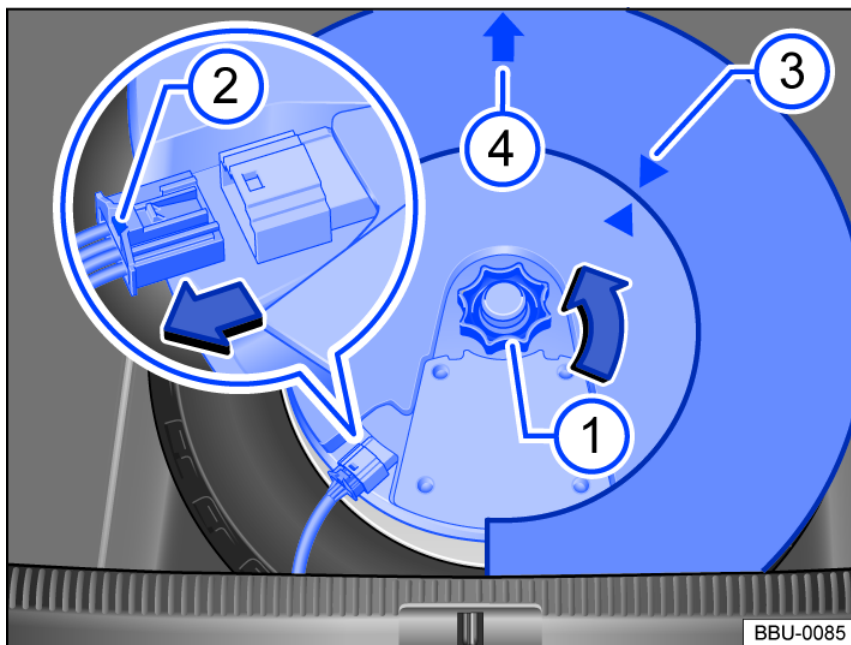

Fig. 171 In the luggage compartment: removing the subwoofer (version 2).
- Place the subwoofer carefully in the rim well. The point of the "FRONT" *fig. 171* (4) arrow symbol on the subwoofer must face forward.
- Check that the tip of the arrow on the subwoofer corresponds to the tip of the arrow on the vehicle toolkit *fig. 171* (3).
- Insert the connector *fig. 171* (2) until you hear the locking mechanism lock into place.
- Turn the handwheel *fig. 171* (1) on the threaded pin in the opposite direction to the arrow until the subwoofer is securely fastened.